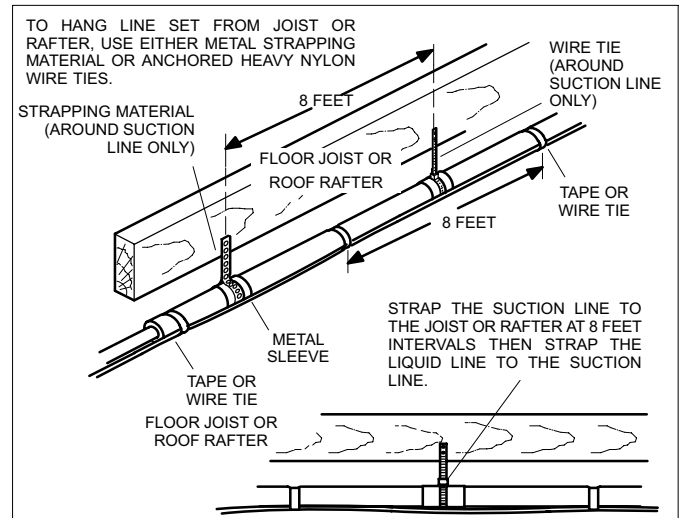

Figure 15. Refrigerant Line Set: Installing Horizontal Runs
- Installation of line set on horizontal runs is illustrated in figure 15.